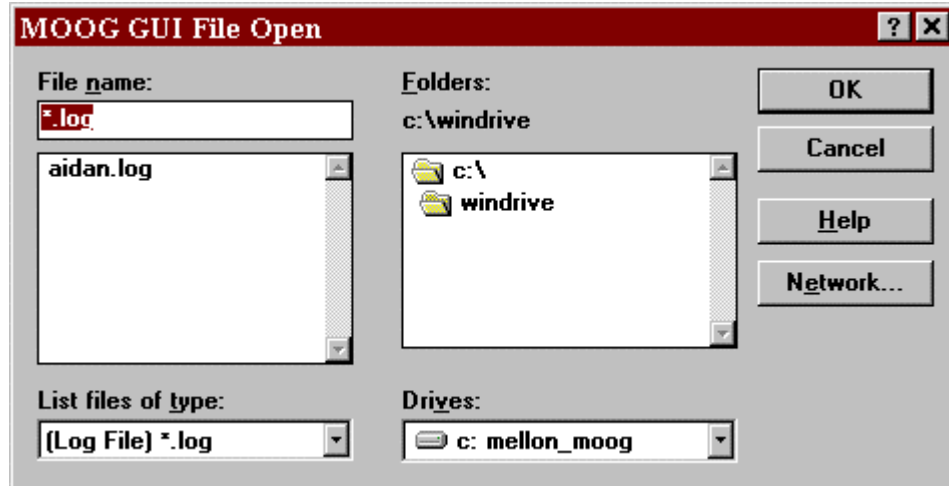

FIGURE 4.25 MOOG GUI File Open Dialog Box
- A *MOOG GUI File Open* dialog box appears (FIGURE 4.25). Use this box to search for the *.log file you want to open.